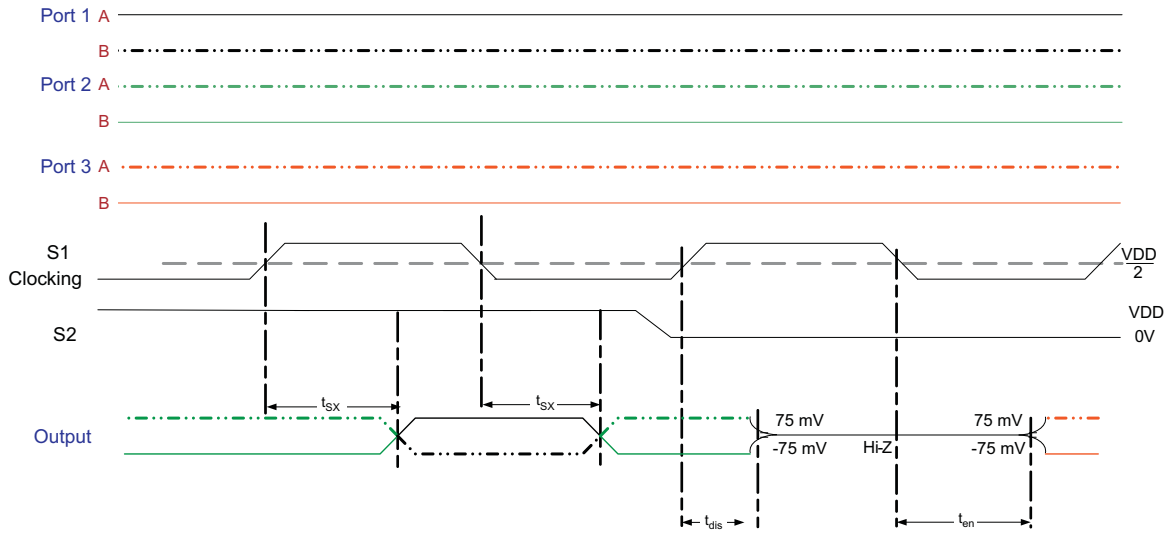

Figure 6. TMDs Outputs Control Timing Definitions
A. Channels 2, 3, 4, $V_{CC} = AV_{CC} = 3.3\text{ V}$, $T_A = 25^\circ\text{C}$, $R_{VSADJ} = 4.02\text{ k}\Omega$, See Figure 6
A. Channel 1, $V_{CC} = AV_{CC} = 3.3\text{ V}$, $T_A = 25^\circ\text{C}$, $R_{VSADJ} = 4.02\text{ k}\Omega$, See Figure 6
A. 1080p 10-Bit, $V_{CC} = AV_{CC} = 3.3$ V, $T_A = 25^\circ\text{C}$, $R_{VSADJ} = 4.02$ k Ω , See Figure 6, Clock Channel = 185.6 MHz, Data Channel = 1.856 Gbps
A. 1080p 12-Bit, $V_{CC} = AV_{CC} = 3.3$ V, $T_A = 25^\circ\text{C}$, $R_{VSADJ} = 4.02$ k Ω , See Figure 6, Clock Channel = 222.8 MHz, Data Channel = 2.228 Gbps